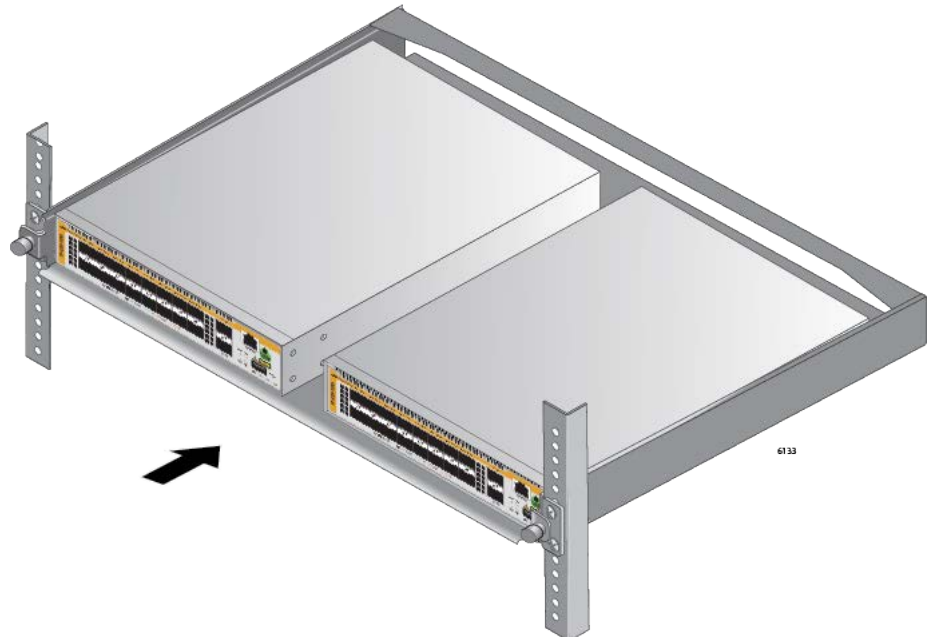

Figure 55. Sliding in the RKMT-J15 Tray
11. Slide in the tray to be flush with the equipment rack poles as shown in Figure 55.